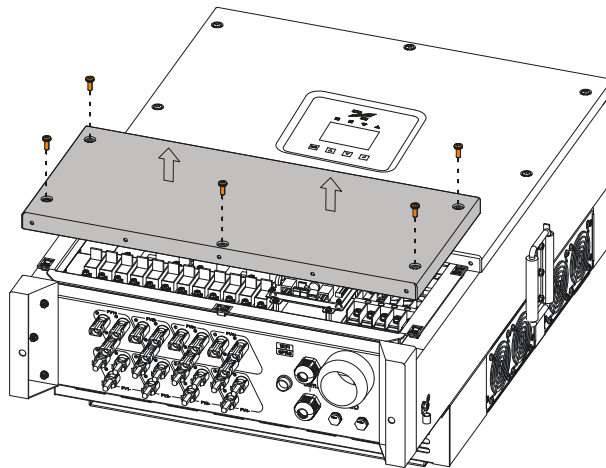

Figure3-20 Dismantle cover
- Step 1 Dismantle cover, as shown in Figure3-20.